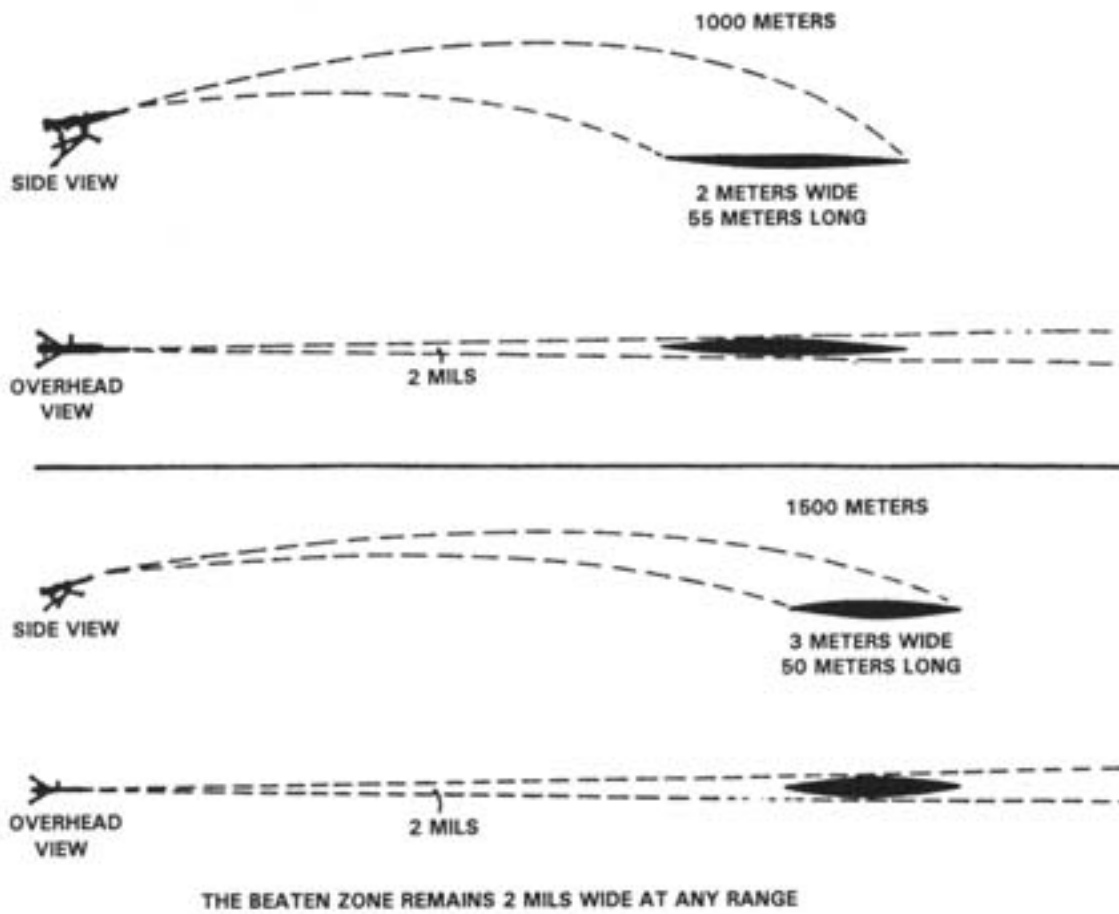

Figure 6-5. Effect of Range on Beaten Zone (Example Shown for the M240G).
b. Effect of Range. As the range increases, the beaten zone becomes shorter and wider. The beaten zone remains 2 mils wide at any range. See figure 6-5.